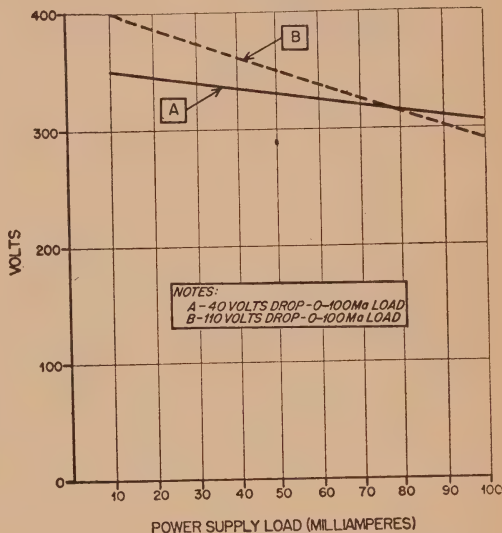

Fig. 6. Regulation of selenium voltage doubler supply (A) compared to conventional vacuum tube full-wave supply (B).
2. The use of selenium rectifiers offers improved voltage regulation, as compared with vacuum rectifiers, since the forward resistance of the selenium rectifier is extremely low. The regulation of this supply, compared to a vacuum tube rectifier supply is shown in Fig. 6.